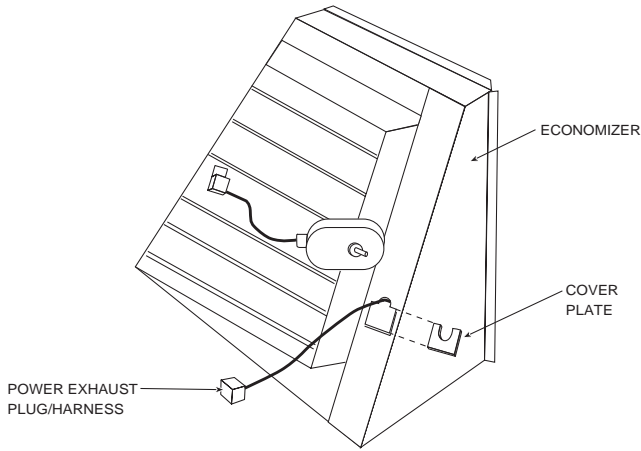

Fig. 3 — Cover Plate Removal
3. Remove the cover plate from the side of the economizer assembly. See Fig. 3.